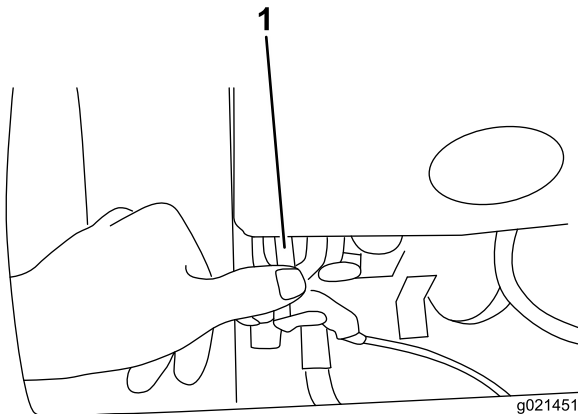

Figure 14
2. Push the red button of the engine-shutoff switch for 3 seconds to stop the engine (Figure 14).